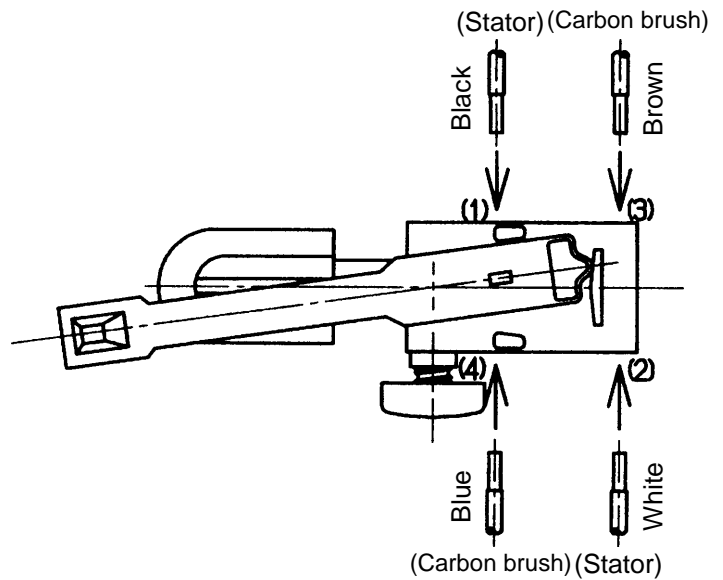

Fig. 22 Connection of reversing switch
(1) Wiring of reversing switch
Insert the lead wire (black) coming from the stator into the terminal (1) of the reversing switch, and the lead wire (white) into the terminal (2) as shown in Fig. 22. Insert the lead wire (brown) coming from the carbon brush into the terminal (3) and the lead wire (blue) into the terminal (4). After the insertion, pull each lead wire slightly to check that the lead wires do not come off. To disconnect the lead wires, insert a small slotted-head screwdriver into the windows near the lead wires and pull out the lead wires.